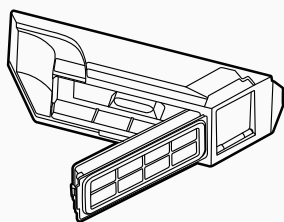

Fig. 9
3. Detach the dust box filter from the dust box filter latch and empty the dust box. [Fig. 9]